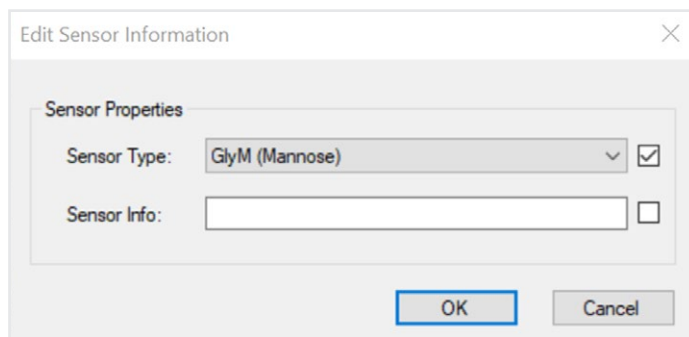

Figure 22: Edit Sensor Information window in the Octet® BLI Discovery Software v.12.2.
- In addition to the sample ID, sensor type can also be modified in the Preprocessed Data tab in BLI Discovery Software by clicking the Show icon on the top, followed by selecting the sensor well (top left Sensor Tray map), right-clicking and selecting Edit Sensor Info. Use the dropdown menu to choose the right sensor type (Figure 22).